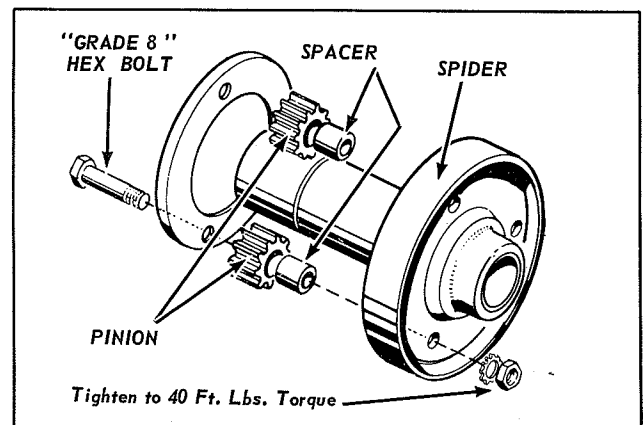

Figure 3
3. If the spider assembly has been dis-assembled, place the special "grade 8" pinion bolts through the bolt ring as shown in Figure 3, and assemble spacers to the bolts. Install the pinions over the spacers, and insert the bolt ends through the mounting holes in spider and secure with external tooth lockwashers and hex nuts. Tighten these nuts with a torque wrench to 40 ft. lbs. torque.